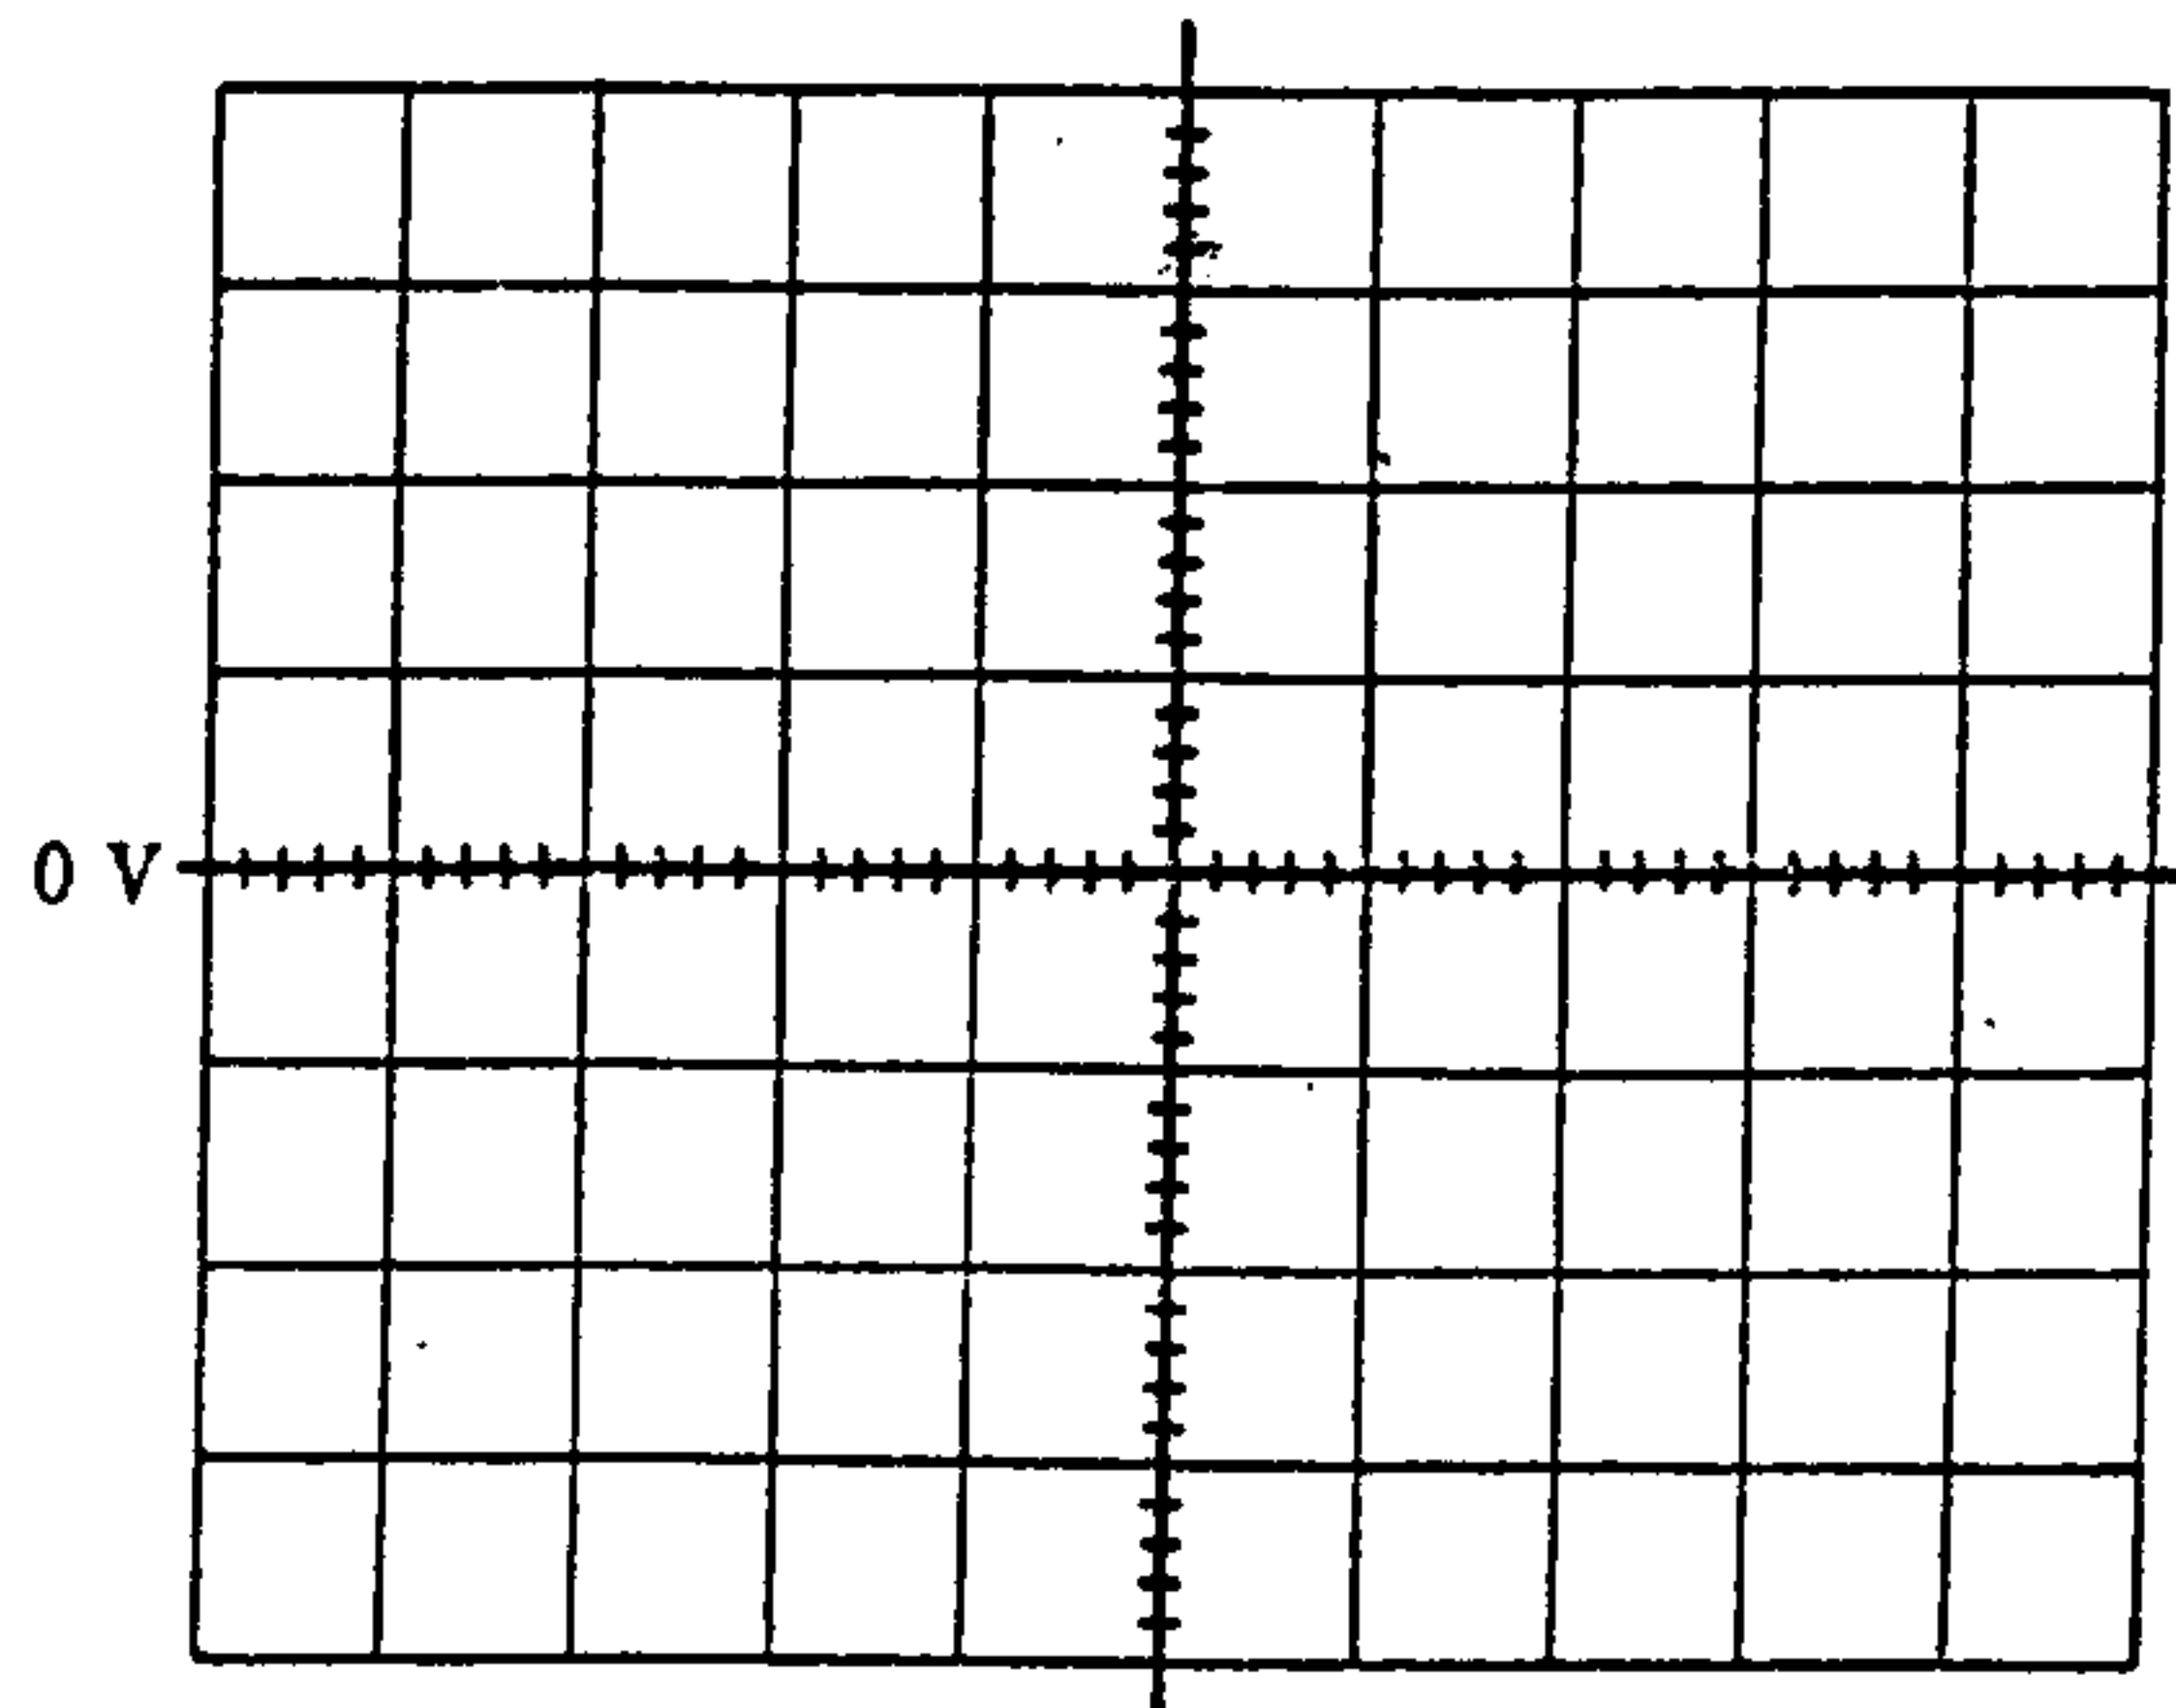
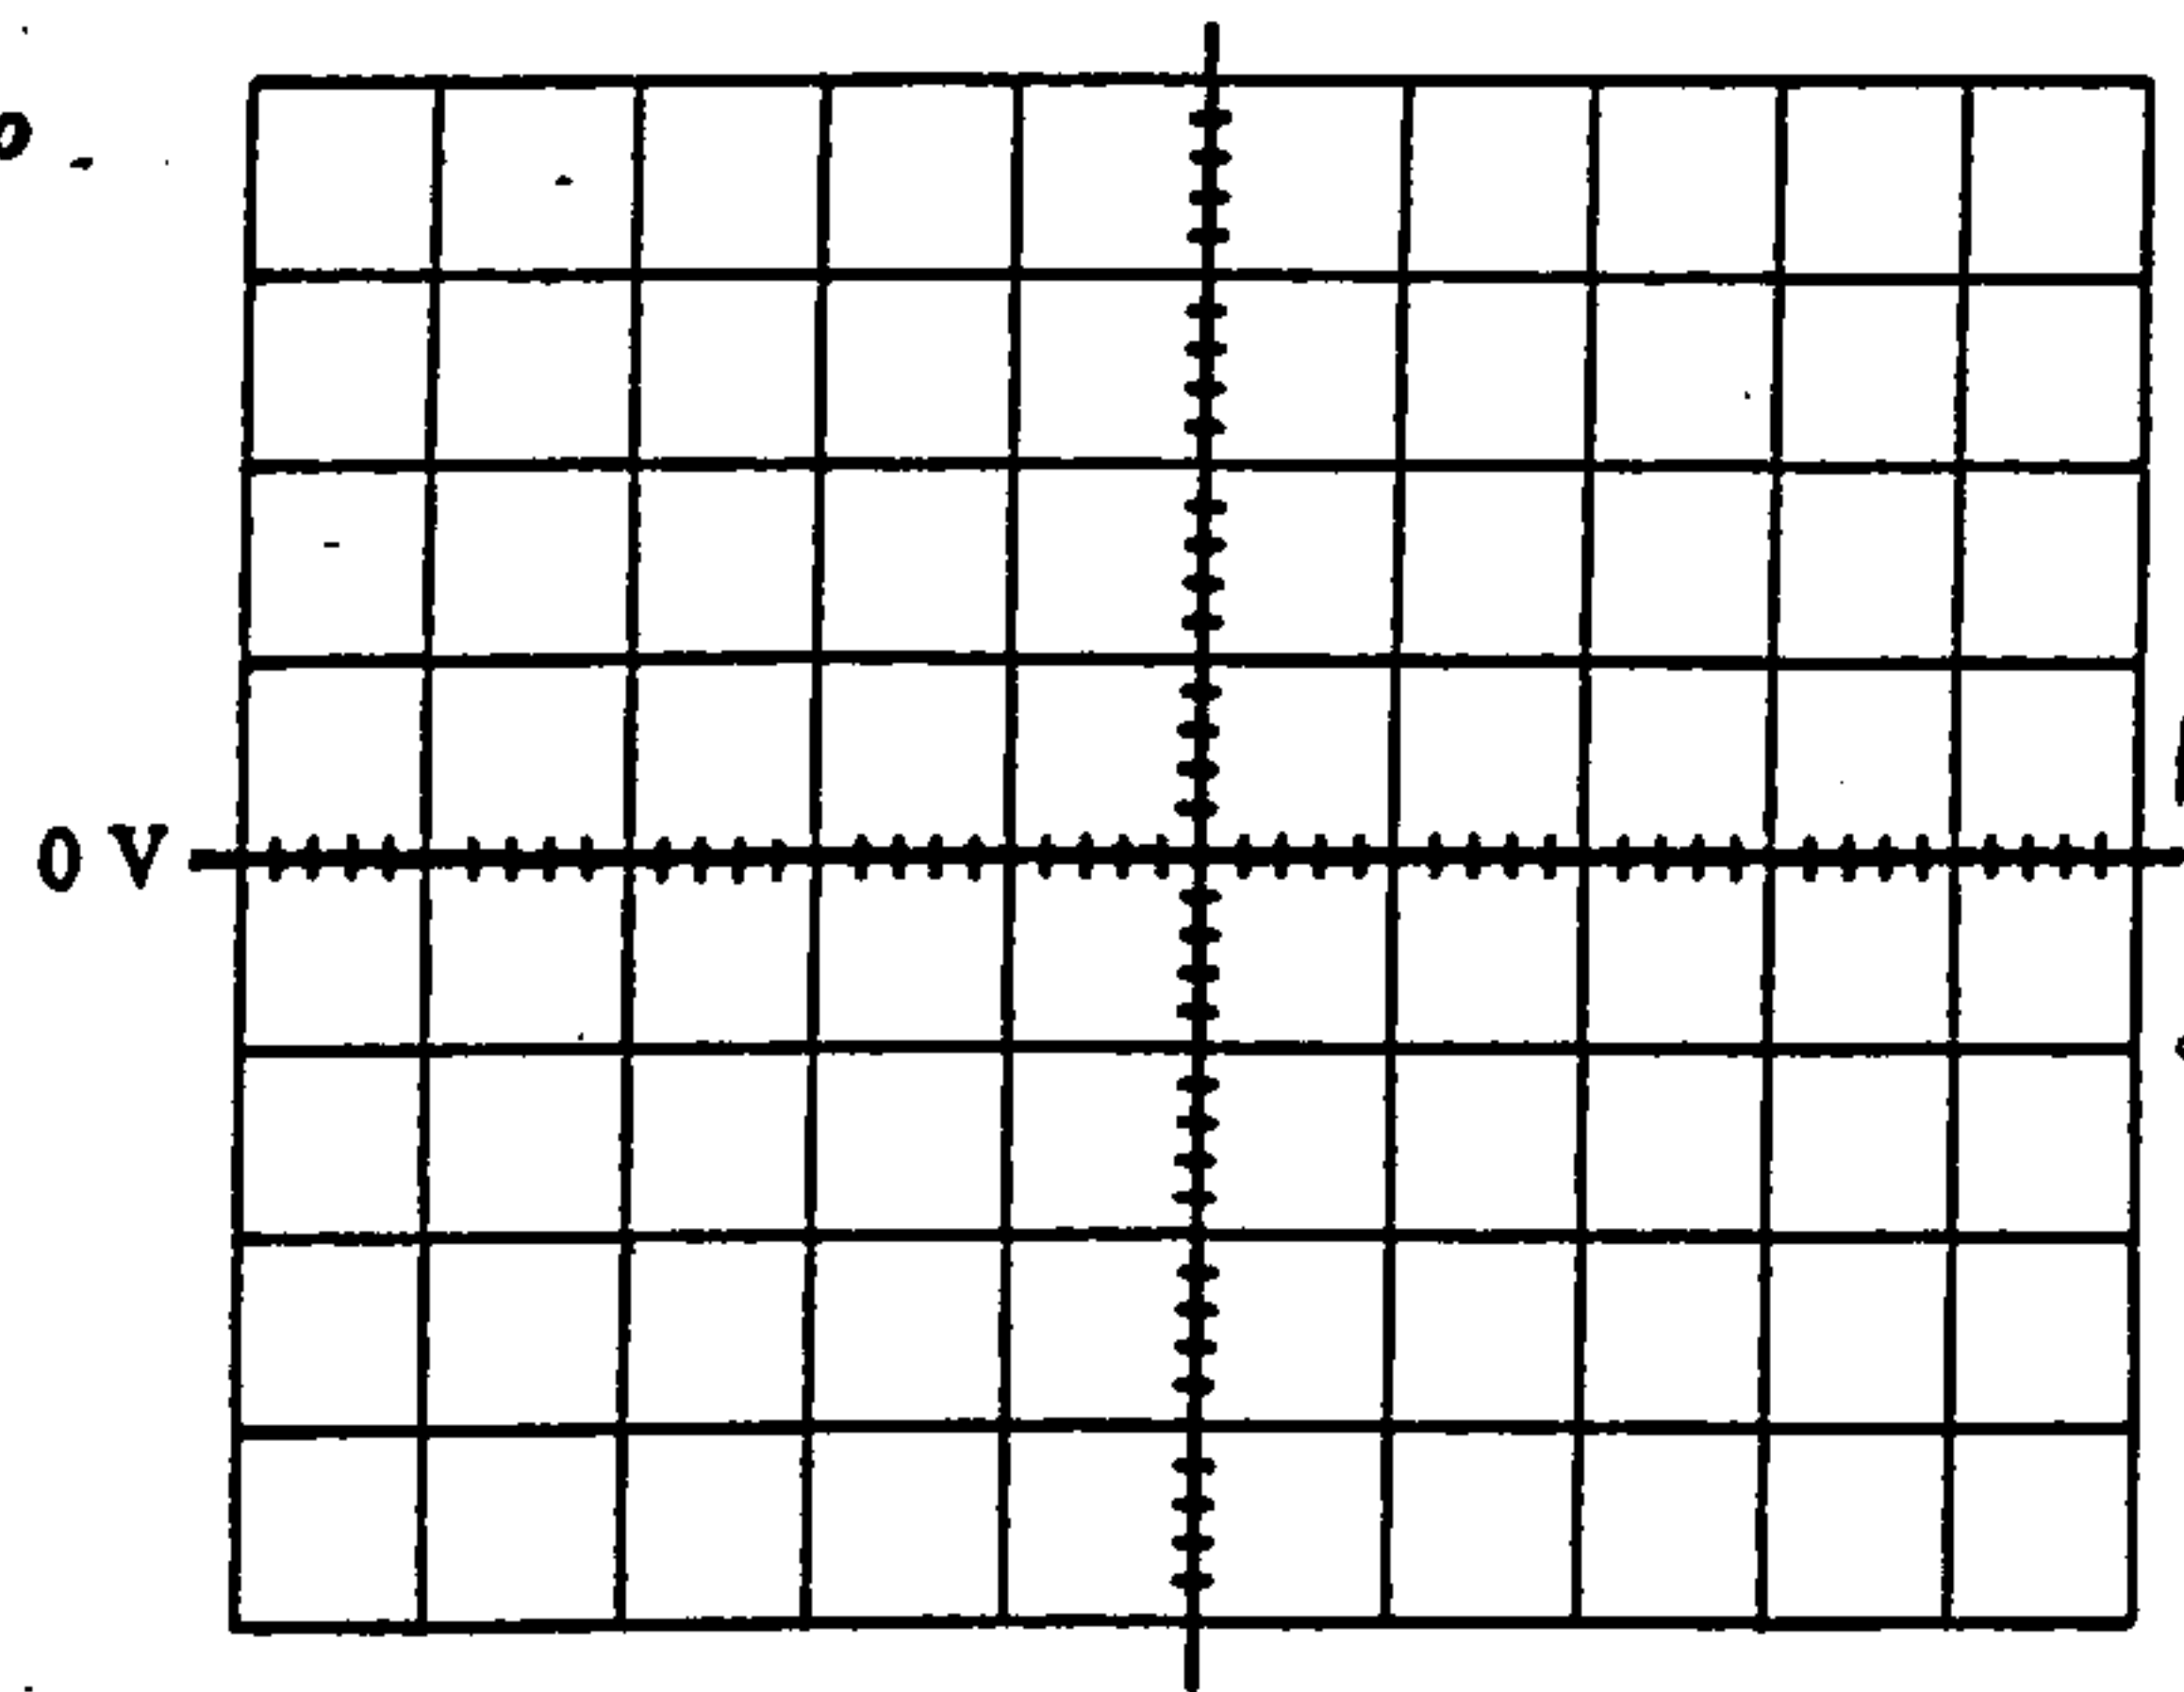

Figure 6-2
Figure 6-3
- d. Using the results of Parts 2(b) and 2(c) sketch the expected waveform for  $V_o$  in Fig. 6.2 for one full cycle of  $V_i$ . Use the horizontal center axis as the  $V_o = 0$  V line. Record the chosen vertical and horizontal sensitivities below:
- e. Using the sensitivities of Part 2(b) use the oscilloscope to view the output waveform  $v_o$ . Be sure to preset the  $V_o = 0$  V line on the screen using the GND position of the coupling switch (and the DC position to view the waveform). Record the resulting waveform on Fig. 6.3.
How does the waveform of Fig. 6.3 compare with the expected waveform of Fig. 6.2?